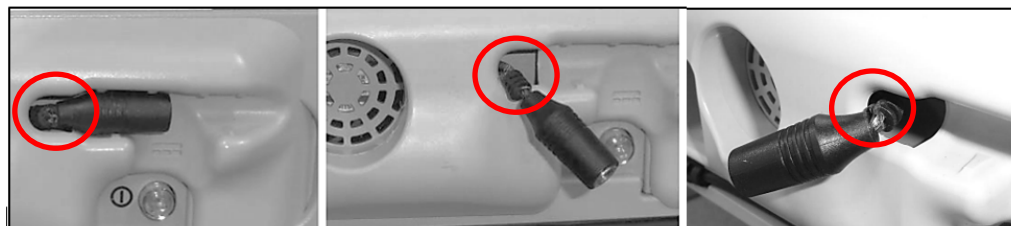

Figure 2 Examples of Damage to the connector plug
- a. Inspect the power connector plug at the back of the PES for any damage. See examples of frayed or damaged cables/cords as shown in Figure 2.